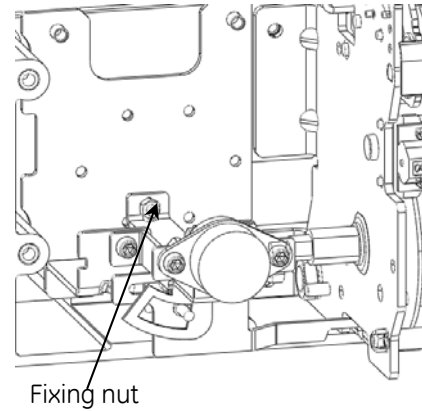

Fig 4a
6. Fix the mounting bracket assembly in breaker using the nuts provided as shown in fig 4a & 4b.